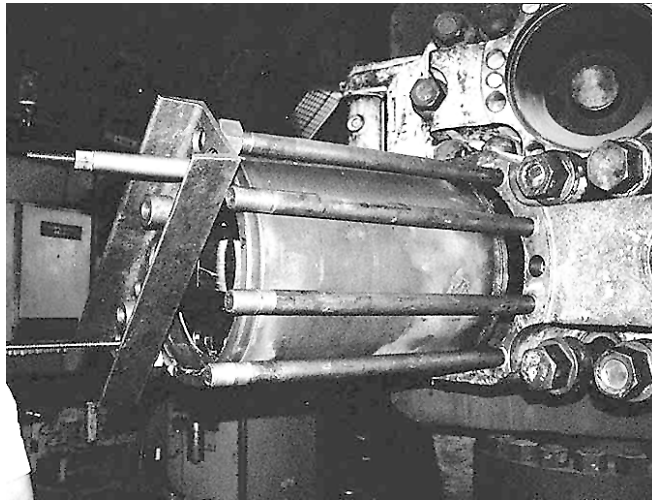

Figure 5-56. Typical Cylinder Removal From Door
- a. Install $1\frac{7}{8}$ " nuts over two diagonally opposite cylinder studs. Install two $\frac{1}{2}$ "-NC by 12" long all thread rods into the cylinder. Install the puller tool over the cylinder studs and the two 12" long all threads. Position the $1\frac{7}{8}$ " nuts to allow sufficient clearance between the puller and cylinder face for the cylinder to clear the door. Install the two $\frac{1}{2}$ "-NC nuts and washers on the all thread rods. Tightening these nuts will pull the cylinder, piston, and ram shaft assembly out of the door (see Figure 5-56).